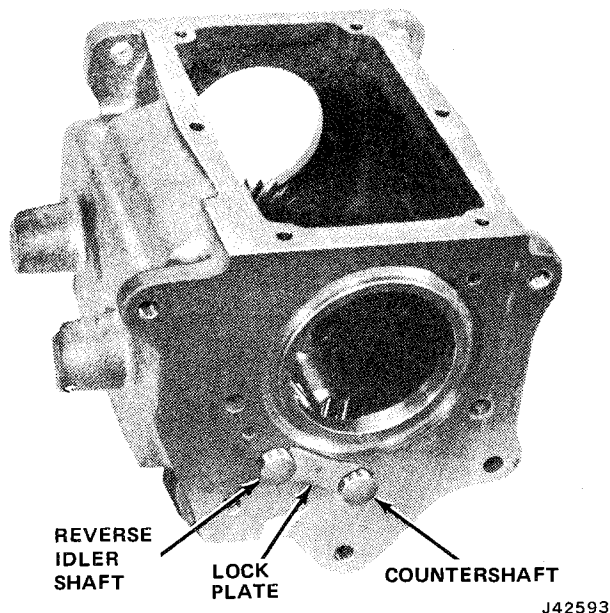

Fig. 2B-30 Lock Plate Installation
(20) Install clutch shaft in case with cutaway portion of shaft facing downward (fig. 2B-31). Guide clutch shaft onto main shaft. Do not displace pilot bearing rollers during installation.
(21) Install front bearing retainer on clutch shaft.
(22) Install Thrust Yoke Tool J-25200 in second gear groove and between clutch shaft teeth and blocking ring.
(23) Install lockrings on front and rear bearings.